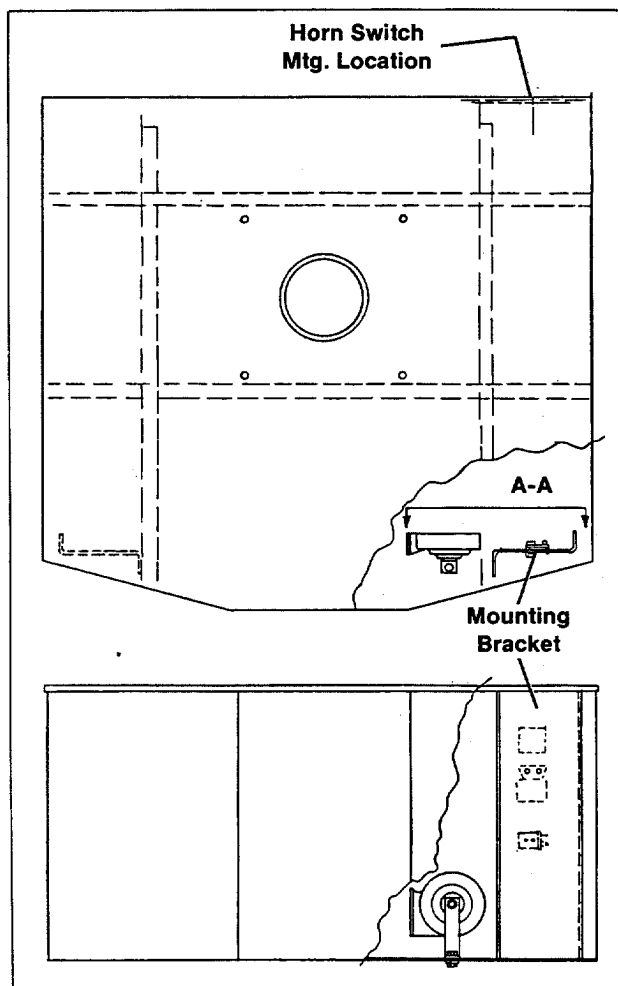

Figure 1. Mounting Bracket
3. Locate mounting bracket with predrilled holes for mounting alarm horn kit. See Figure 1.